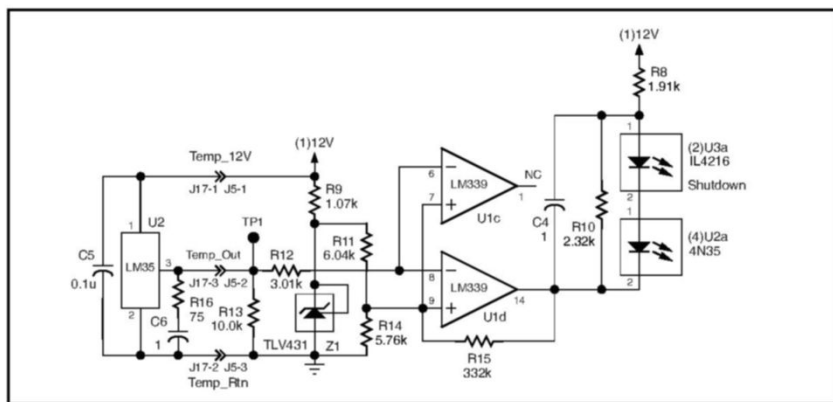

Figure 17: This is the Thermal Shutdown circuitry.
The Thermal Shutdown circuitry is shown in **Figure 17**. Heatsink temperature is monitored by sensor U2, which is mounted on the main heatsink. Comparator U1d compares U2’s output with a voltage derived from stable voltage source Z1. A heatsink temperature $> 70^{\circ}C$ drives the output of U1d Low. This sinks current through the LED of optocoupler U3a, turning on the associated TRIAC (2)U3b. This initiates Thermal Shutdown mode. U1d being Low also sinks current through the LED U2a. The associated transistor is used for front panel display control. R15 applies hysteresis to comparator U1d. This keeps U1d’s output Low until the sensor U2 drops below $60^{\circ}C$. Capacitor C4 prevents erroneous initiation of Thermal Shutdown mode when the amplifier is first plugged into the 120V AC power source.